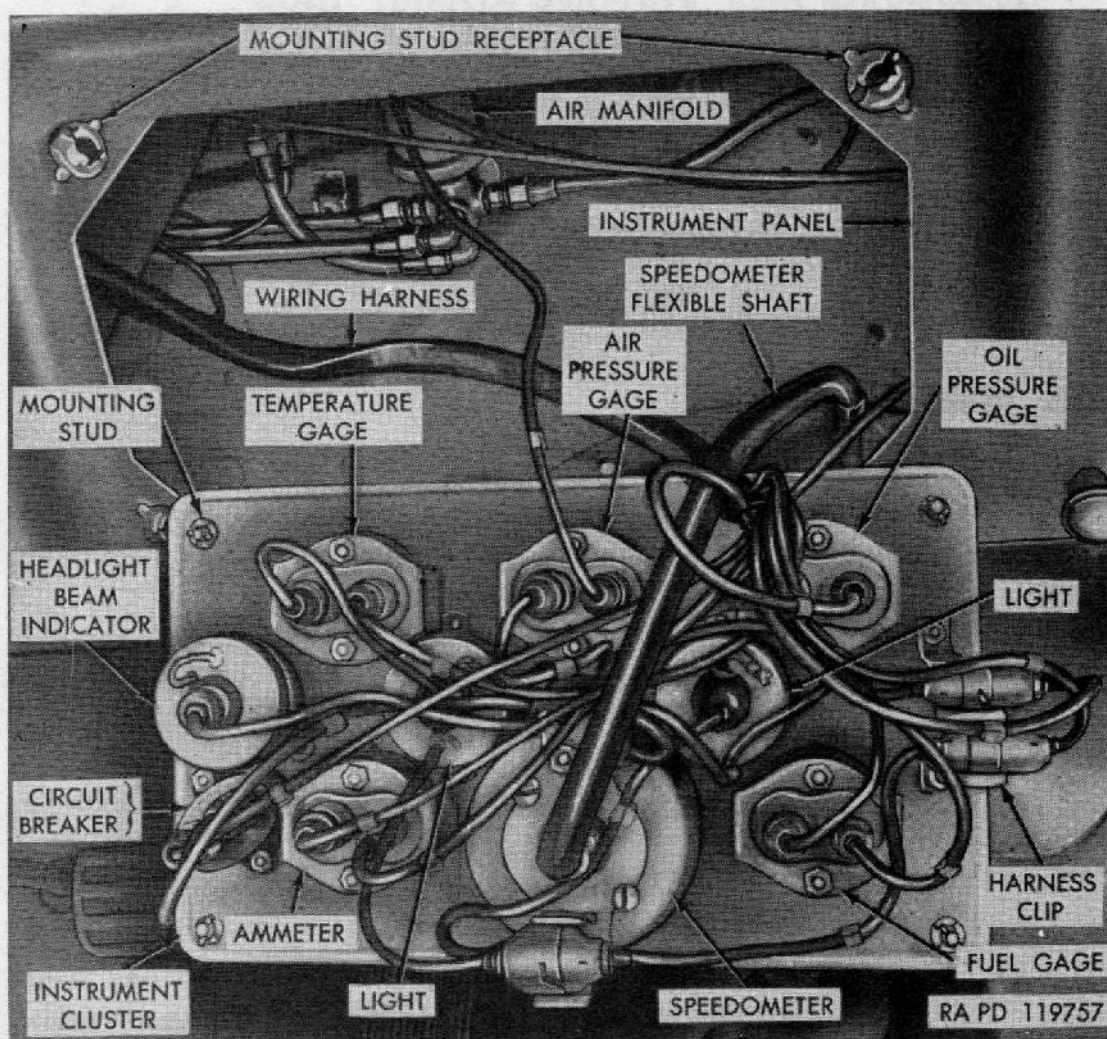

Figure 137. Instrument replacement.
(1) *Instrument circuit breaker.* The instrument circuit breaker is located on the back of instrument cluster at the left of ammeter (fig. 137). It protects all gages mounted in instrument cluster.
in each corner (fig. 137). Release these studs and pull instrument cluster out of instrument panel (fig. 137).
(fig. 137)
a. LOCATION. Engine-water-temperature sending unit is mounted in engine water manifold near outlet end. Engine-oil-pressure sending unit is mounted on lower right-side of engine crankcase near the rear. Air-pressure-gage sending unit (fig. 139) is mounted in air manifold (fig. 137) under cowl on rear side of dash panel. Fuel tank sending unit is mounted in fuel tank.
(1) Temperatures, oil-pressure, and air-pressure sending units have pipe thread connections. Disconnect terminal connection and unscrew unit from mounting.
(2) Fuel tank sending unit is flange mounted. Remove mounting screws and lift assembly from tank. Discard gasket.